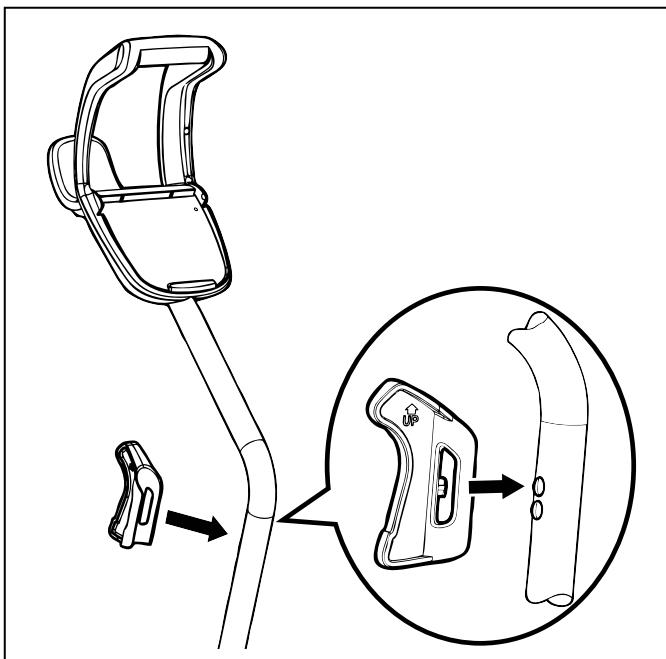

Figure 7. Snap Cleaner hook into Place
8. Align cleaner hook pins with the top holes in the handle tube and snap into place (Figure 7).